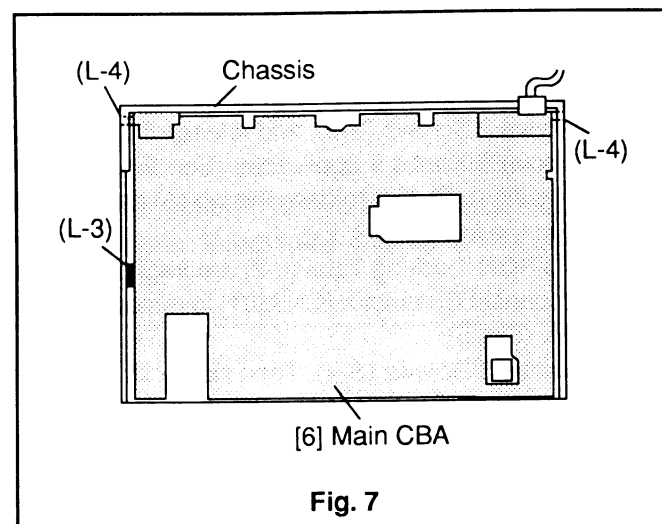
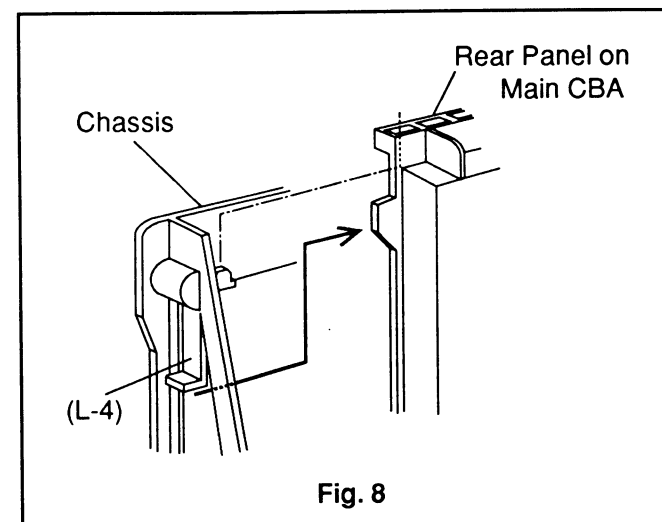

Fig. 7
Fig. 8
5. First release Locking Tab (L-3). Then release Locking Tabs (L-4) by pressing them outward as you lift the Main CBA. (Fig. 7, Fig. 8)